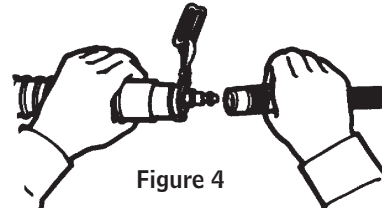

Figure 4
2. With air flowing, connect the facepiece assembly to the air supply hose (see Figure 4). Pull back the sleeve on the hose coupler and insert the quick-disconnect nipple on the flow control. Once the fitting is secured, release the coupling sleeve to lock the fitting together. Pull on the coupling to make sure they are attached securely.